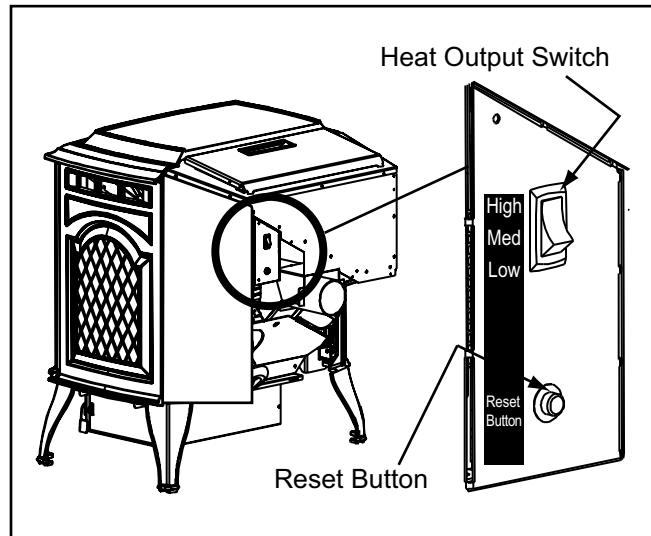

Figure 21.1
3. Locate the heat output control switch mounted on the back of the appliance in the upper right corner. **See Figure 21.1 on page 21.** Turn it to the "high" setting by pushing the top of the control switch in and then adjust the thermostat to its highest setting. Open the right side panel and the red call light located behind the control box will be on. **See Figure 22.1.** This indicates the thermostat is calling for heat.
3. Occasionally the appliance may run out of fuel and shut itself down. When this happens, the red call light will be on. (**See Figure 22.1, page 22**). To restart it, fill the hopper and press the reset button. (**See Figure 21.1, page 21**). When you press the reset button the red call light will go out. Release the button and the light will come back on. You should see a fire shortly. If not, follow the instructions on **page 22**, of "Starting Your First Fire".